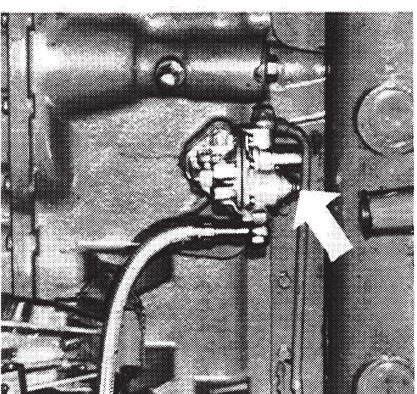

Fig. 18. Cleaning the pre-filter
**The pre-filter should be cleaned after every 100 hours running,** however, at least once per season. Wash the feed pump clean externally and remove the cover (see Fig. 18) and lift up the strainer. Clean the strainer in fuel oil and then refit it. Check the seal and tighten the cover. Vent the fuel system (see point 9).